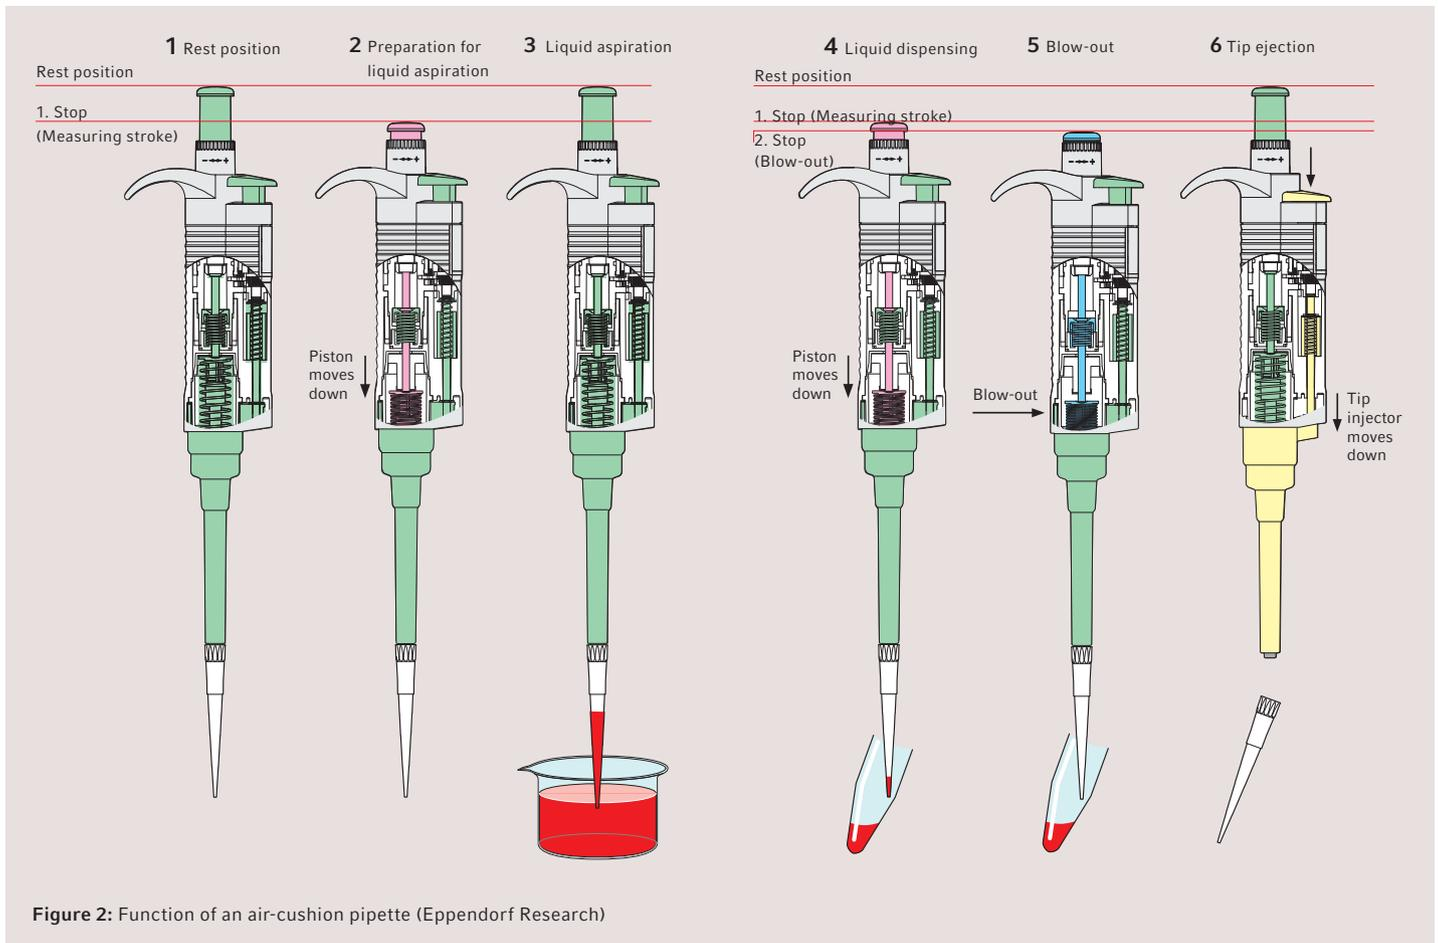

Figure 2: Function of an air-cushion pipette (Eppendorf Research)
Figure 2 shows the design principle of the air-cushion pipette based on the rest position (1). To prepare for aspiration of the liquid (2) the push-button is pressed to the first stop (measuring stroke). The piston moves down, displacing a volume of air that corresponds to the selected aspirating volume of the liquid. To aspirate liquid (3) the pipette tip is immersed into the liquid vertically. As the pushbutton slowly moves back, a partial vacuum is created in the pipette tip, aspirating the required volume through the tip opening. To dispense liquid (4), the push-button is slowly pressed to the first stop (measuring stroke). The piston moves down, emptying the tip. To empty the tip completely („blow-out“, 5), the push-button is pressed to the second stop (blow-out), and the pipette is raised with the push-button still pressed wiping it against the wall of the vessel. After the push-button has moved back, the piston returns to the rest position (6). The immersion depth of the pipette tip has a significant effect on the result. If the tip is immersed too deeply into the liquid, drops form on the outside, possibly falsifying the dispensing volume. If the tip is not immersed deeply enough into the liquid, turbulence is produced, and an incorrect volume will be aspirated.
**Figure 2:** Coupling of a positive-displacement pipette with a matching pipette tip: the tip has an integrated piston (2) which is securely connected during pipetting with the piston rod of the pipette (1). The liquid in the tip only reaches up to the hermetic sealing lip (3), thus the formation of aerosols is excluded.